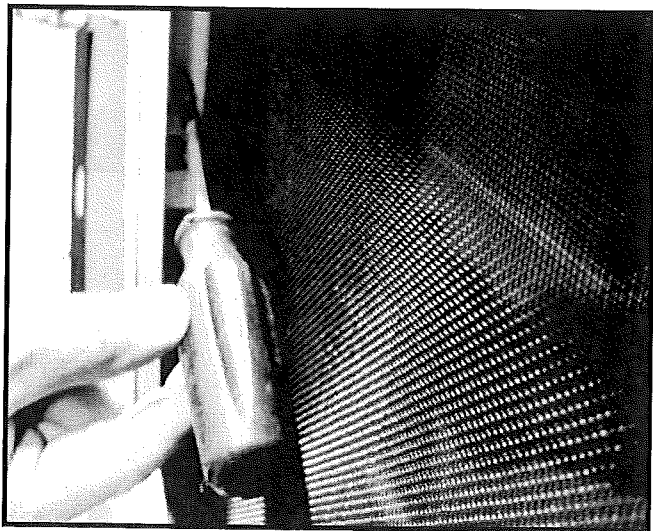

Figure 15. Tighten Phillips Screws
6. Tighten the 4 phillips screws to secure the Tonic front to the fireplace Fig 15.